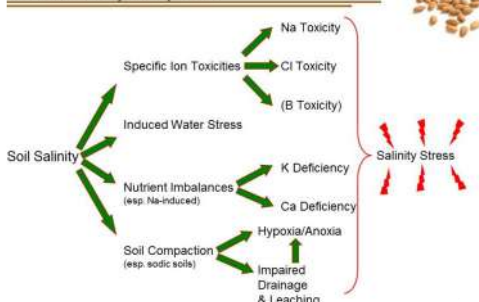

Figure 1: Components of Salinity Stress
Soils with high concentration of salts can induce salinity stress and restrict the growth of salt-sensitive plants. Among the factors that can cause salinity stress (See Figure 1), toxicity of ions, usually sodium (Na), chloride (Cl), and boron (B), is the most common that result in leaf tissue damage. In the orchard, the most typical salt damage observed is "leaf-tip burn" (See Figure 2) and the best way to prevent it is by monitoring the soil salinity. The advantage of soil salinity monitoring is remedial action can be performed on soil before symptoms on leaf tissue appear. Annual testing of soil samples from selected locations in the orchard should be part of every growers' management program.